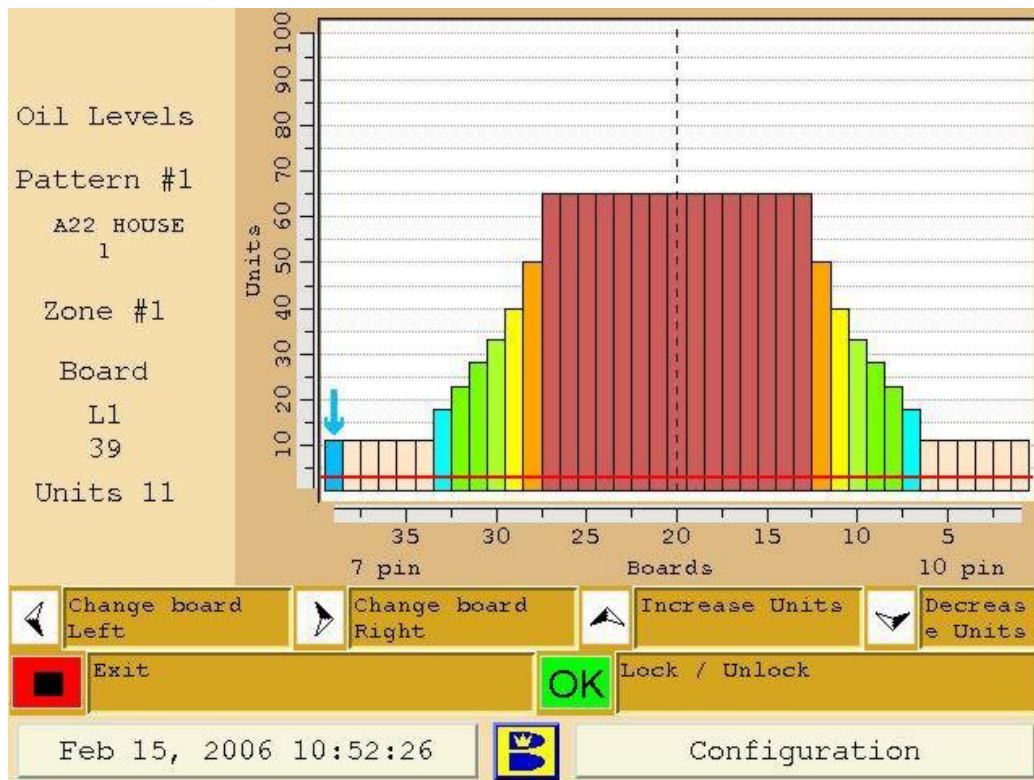

Figure 7-4. Oil Levels
The oil levels screen allows you to create the shape and levels of the conditioner pattern in units of oil. Minimum and maximum levels range from 0 to 100 units. To create the proper lengthwise taper of a pattern, oil levels, from zone to zone, should decrease between 15% and 30%. This is the same for sport and recreational patterns. The percent decrease from zone to zone depends on the starting oil level in the first zone. If the first zone conditioner level is lower (60 units or less) the percentage decrease in the following zones will be smaller and if the first zone conditioner level is higher (above 60 units), the percentage of decrease is higher. The last zone or *buff zone* should have 1 to 3 units set in the oil level screen on at least one board. This allows the machine to buff the remaining zone of the pattern, in both directions, without injecting conditioner and enhance the lengthwise taper. Set all boards for zero (0) and the machine will buff the last zone in the forward direction of travel only. This increases the lengthwise taper even more. Refer to Figure 7-4.